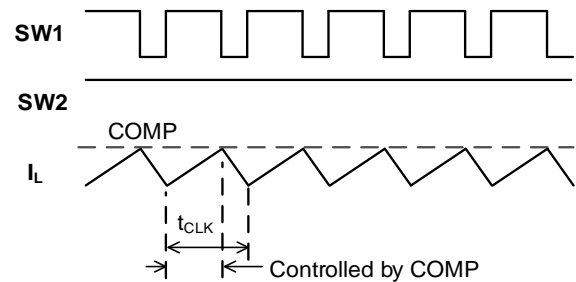

Figure 5: Buck Mode Waveform
SWA works with a peak current mode control logic, and SWB turns on until t_{CLK} times out. In each buck mode cycle, SWA turns on to charge I_L . When I_L reaches the value set by V_{COMP} , SWA turns off and SWB turns on. SWB stays on until the next clock begins. Then SWA turns on and the cycle repeats. The COMP signal is the error amplifier (EA) output from the V_{OUT} feedback and the internal FB reference voltage. Figure 5 shows the buck mode waveform.